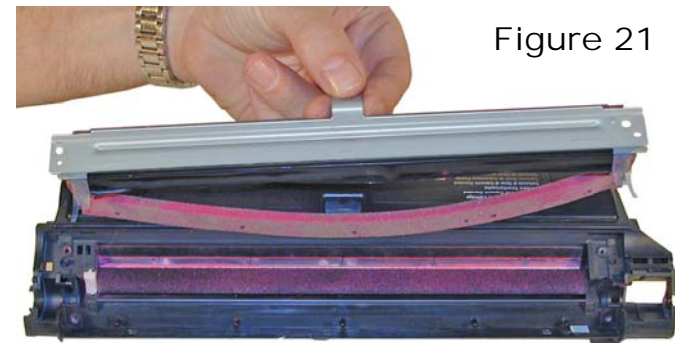

Figure 21
15) Pry up the sealing blade assembly and lift off. The entire foam seal assembly will come off with it. Be careful not to tear the seals. See **Figure 21**